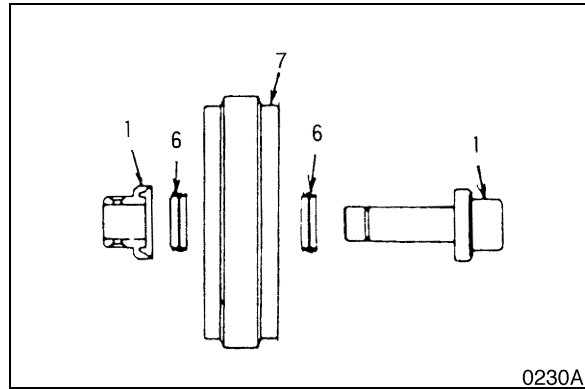

Figure 27
4. Install group seal (6, Figure 27) inside idler (7) and bearing (1).